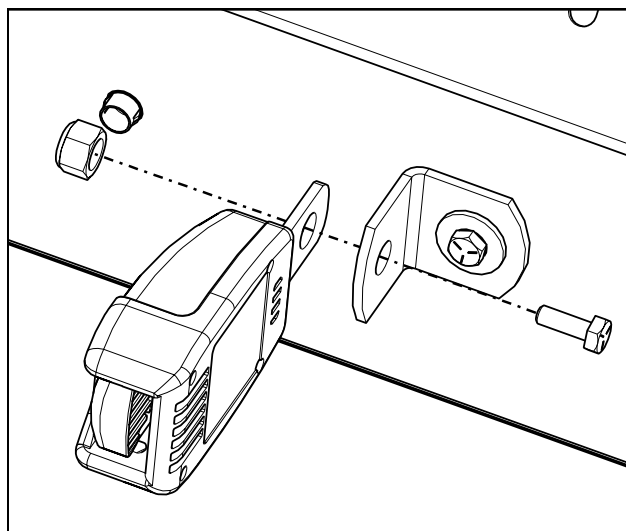

Fig. 13.6: Receiver Latch
13.6 Secure receiver latch to mounting bracket (9SB2) with (1) 7/16-14 x 1" hex head bolt and (1) 7/16-14 lock nut. Tighten hardware to 50 ft.-lbs. (67.8 N-m). (**Figure 13.6**)